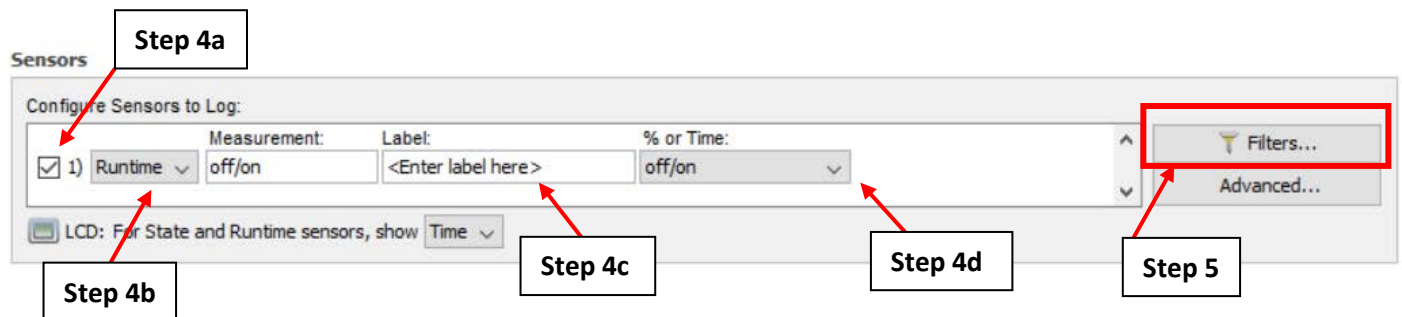

Figure A.5.4: “Sensors” Table Configuration Steps
4. Figure A.5.4 shows what settings to enable in the “Sensors” table:
5. Click the “Filters...” button (Figure A.5.4). A window called “Filter Series” will appear.